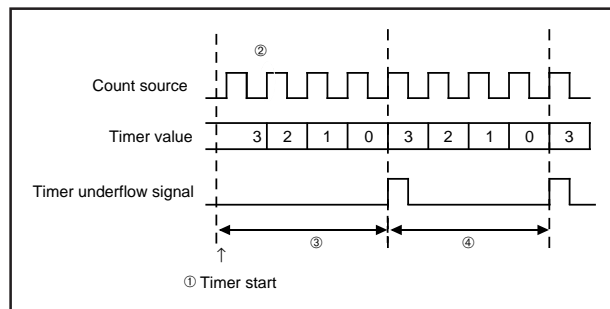

Fig. 14 Count start time and count time when operation starts (T1, T2)
Count starts from the rising edge ② in Fig. 14 after the first falling edge of the count source, after timer 1 and timer 2 operations start ① in Fig. 14. Time to first underflow ③ in Fig. 14 is different from time among next underflow ④ in Fig. 14 by the timing to start the timer and count source operations after count starts.
(2) Precautions